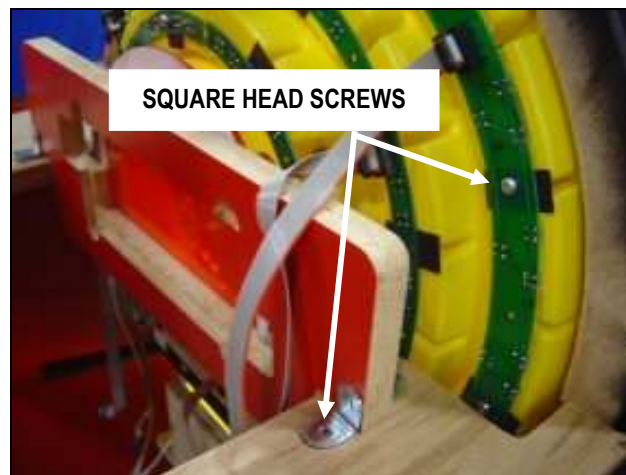

Figure 14 Bonus Ring Access
6. It may be necessary to remove the center "Win Tickets" display board. It is held in place with four wood screws through side brackets as show in Figure 14.